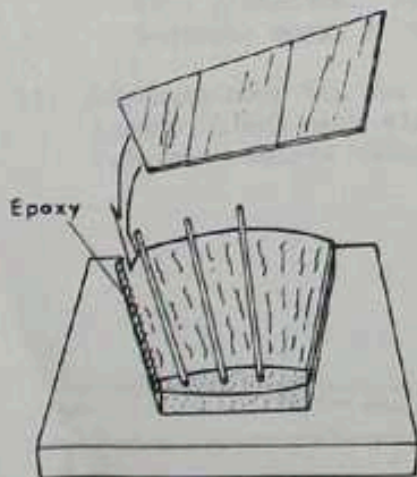

Fig. 6
7. Refer to figure 6 for this step. Lay three 1/4" dia. wood dowels on the top of the wing core as shown. These are to prevent the cement on the sheeting and core from coming into contact before you are ready. Lay a strip of 5-minute epoxy along the trailing edge of the wing. This next step calls for teamwork between two people. While one person holds the wing core perfectly flat on the work surface, the other person applies the sheeting to the core, starting at the trailing edge. As the sheeting is being worked forward, the dowels are removed one by one to allow the surfaces to come into contact. Remember that constant pressure to hold the cores flat must be applied during this operation.